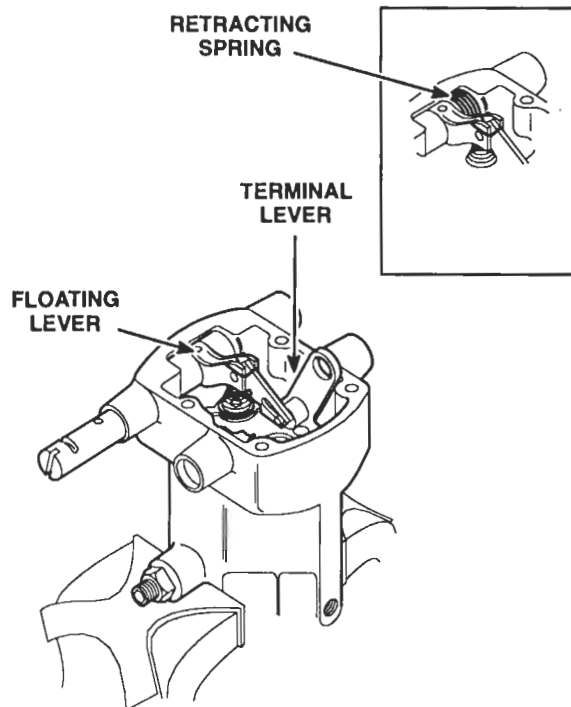

Figure 16. Installing Speed Adjusting Lever, Floating Lever, Speeder Spring and Pilot Valve Plunger Assembly
14. On a governor equipped with a synchronizing motor, place the speed adjusting lever retracting spring over the speed adjusting lever shaft bushing in the governor housing, with the hooked end of the spring over the slot between the two shaft bushings (Figure 16.)